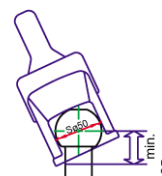

Fig. 1: ball bar, towing vehicle
1.3 The ball coupling WS 3000 can only be used together with coupling balls corresponding to DIN 74058 / ISO 1103 when the neck is **free of fittings** over a distance of **35 mm**. (Fig.1)